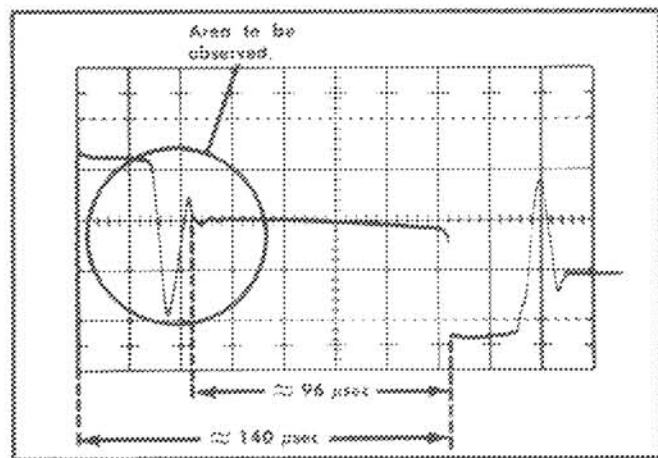

Fig. 6-5. Waveform obtained when OSC FREQ control is correctly adjusted. Oscilloscope controls for waveform were: Time/CM 20 μ Sec, Volts/CM 20.
e. Adjust OSC FREQ control to obtain a waveform similar to the waveform shown in Fig. 6-5.